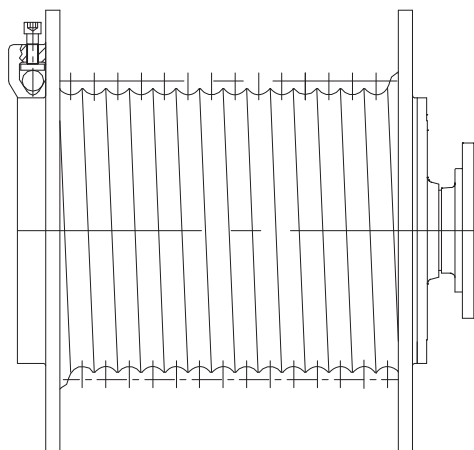
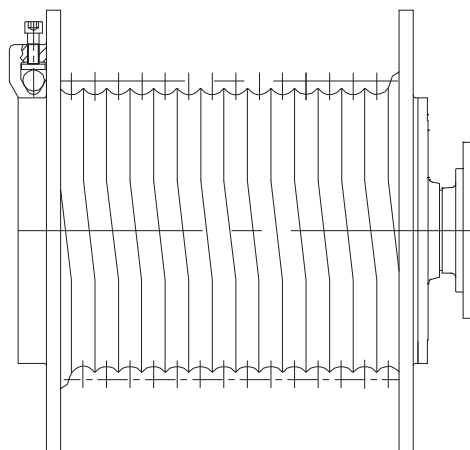

图1/Figure 1
图2/ Figure 2
- 1) 标准沟槽卷筒 (图1) 和特殊沟槽卷筒 (图2)。
- 2) 沟槽方向分左旋和右旋, 默认为右旋 (图1)。
- 1) Drum with normal grooves (figure 1) and with special grooves (figure 2).
- 2) Rope groove has right hand lead and left hand. The default lead is right hand (figure 1).